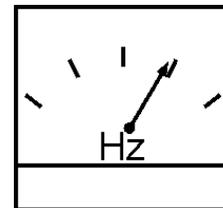

Figure 37. Frequency Meter
3. The generator's frequency meter (Figure 37) should be displaying the 60 cycle output frequency in **HERTZ**.